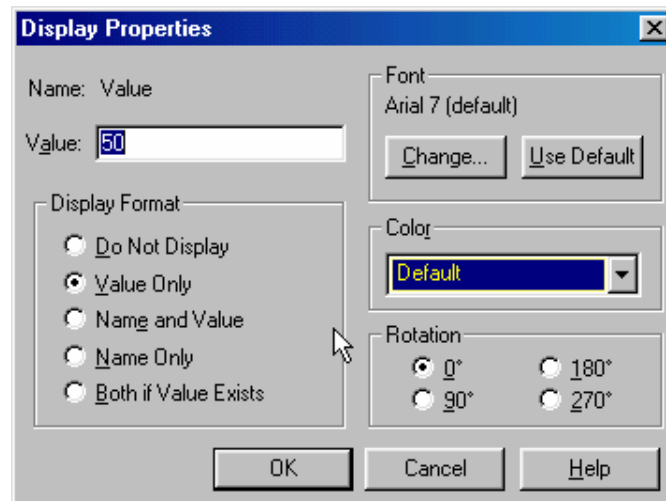

Figure C-7
- To complete the schematic, we have to change the component values. Each resistor was given a name in the order it was placed on the diagram. Thus, your resistors may not have the same names as shown above. However, for simplicity, they will be referred to by the name shown here. To change R3 to 1 meg ohms, double click on the value *1k* and you should get the window shown in figure C-7 with the name *Display Properties*. Change the *1k* to *1MEG*. If you find that the number is in a hard to read position on the circuit diagram, you can single click on it and then move it with the mouse. When you type the value in the *Display Properties* window, you must type *1MEG* **with no spaces**. Note that you have to type *MEG* since *PSpice* uses *M* to mean 10^{-3} and *MEG* for 10^6 . It is not case sensitive. Note that in the schematic pictured, R1 and R2 are the resistors in your voltage divider and R3 represents the impedance of the scope. Since the scope impedance is 1M, we set R3 to 1MEG. R1 and R2 are 1k ohms, you don't need to set them since they are already 1K by default.